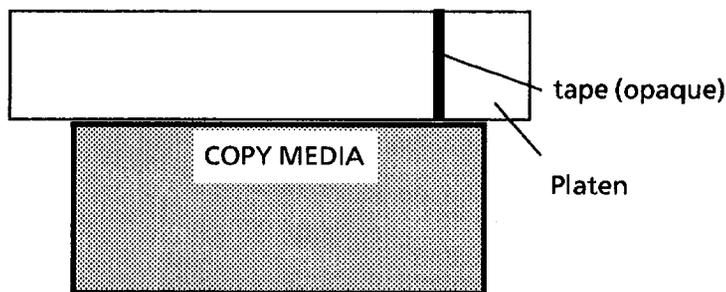

Figure 1. Installing the Tape
1. Figure 1: Place a piece of opaque tape across the width of the Platen. Place the tape so that when a copy is made the image of the tape will be a few inches in from the edge of the copy media.